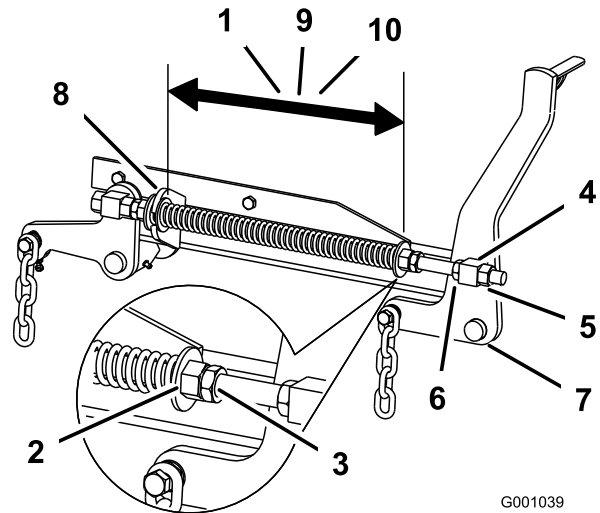

Figure 95
2. Check the distance between the 2 large washers, it needs to be 28.2 cm (11-1/8 inches) for 52-inch mower decks, 26.7 cm (10-1/2 inches) for 60-inch mower decks, or 29.2 cm (11-1/2 inches) for 72-inch mower decks (Figure 95).
3. Adjust this distance, by loosening the spring-jam nut and turning the nut in front of each spring (Figure 95).
4. Lock the nut into position by tightening the spring-jam nut (Figure 95).